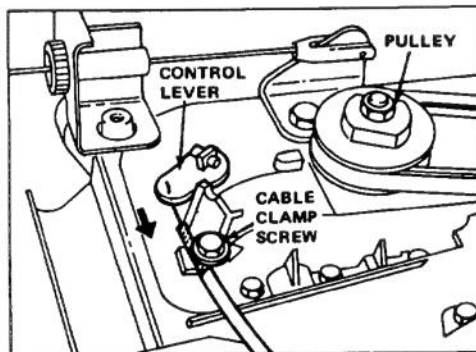

Figure 23
3. **ADJUSTMENT** (Fig. 23) — Loosen cable clamp screw until cable conduit slides. Push transmission control lever toward cable clamp screw and hold lever in place. Pull cable to remove slack and tighten clamp screw.
4. **CHECK ADJUSTMENT** — Assure ground speed control is in "N" and pull mower backward: Pulley (Fig. 23) should not rotate. If pulley does rotate, readjust for neutral: refer to step 3.